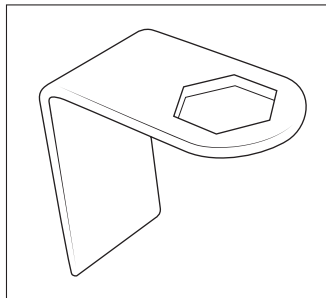

Figure 20
6. Support axle and remove shocks. AEV-supplied tool (fig. 20) will help for holding nut on top inside shock mounts. Retain hardware, discard shocks.